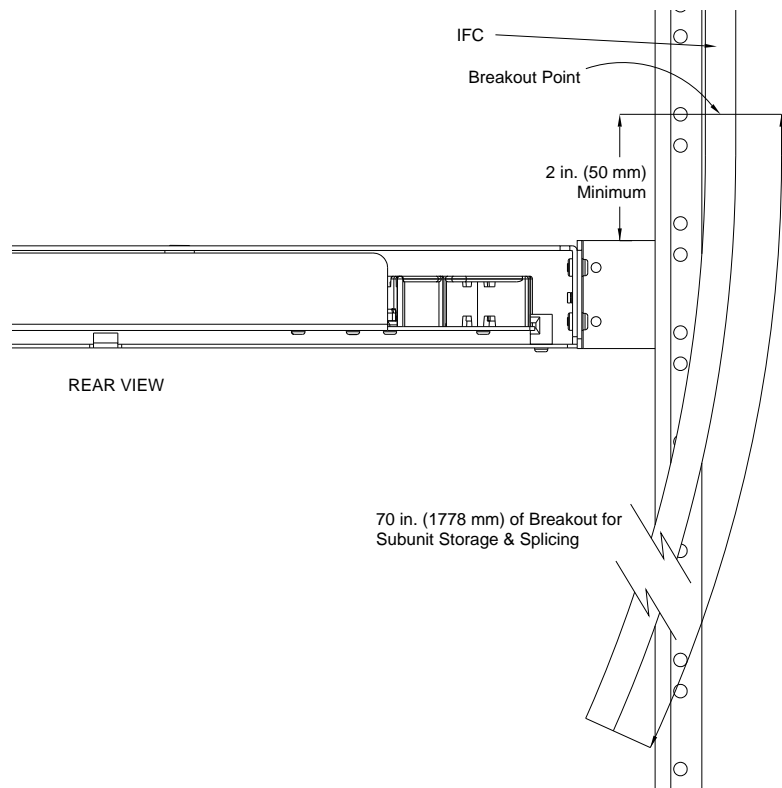

Figure 48 - IFC Breakout Length (1RU)
1. Route IFC to a rear corner entrance of the LCX Fiber Splice Panel, as shown in Figure 48.